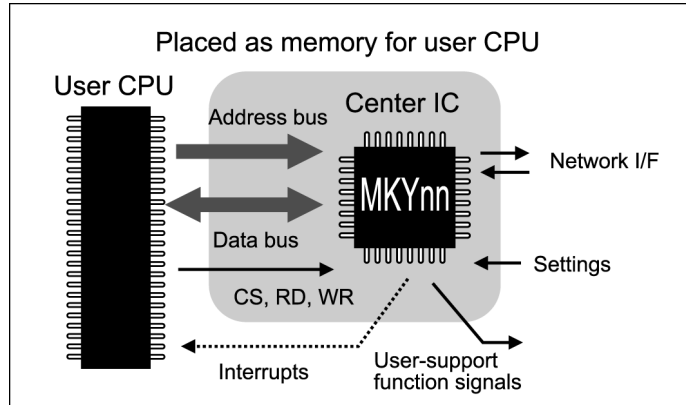

Fig. 5.1 Center IC
- ◆ The center IC is connected to the user CPU by the address bus and data bus, and the chip select (CS), read (RD) and write (WR) control lines of the user CPU. The user CPU can handle the center IC as a simple memory (Fig. 5.1).